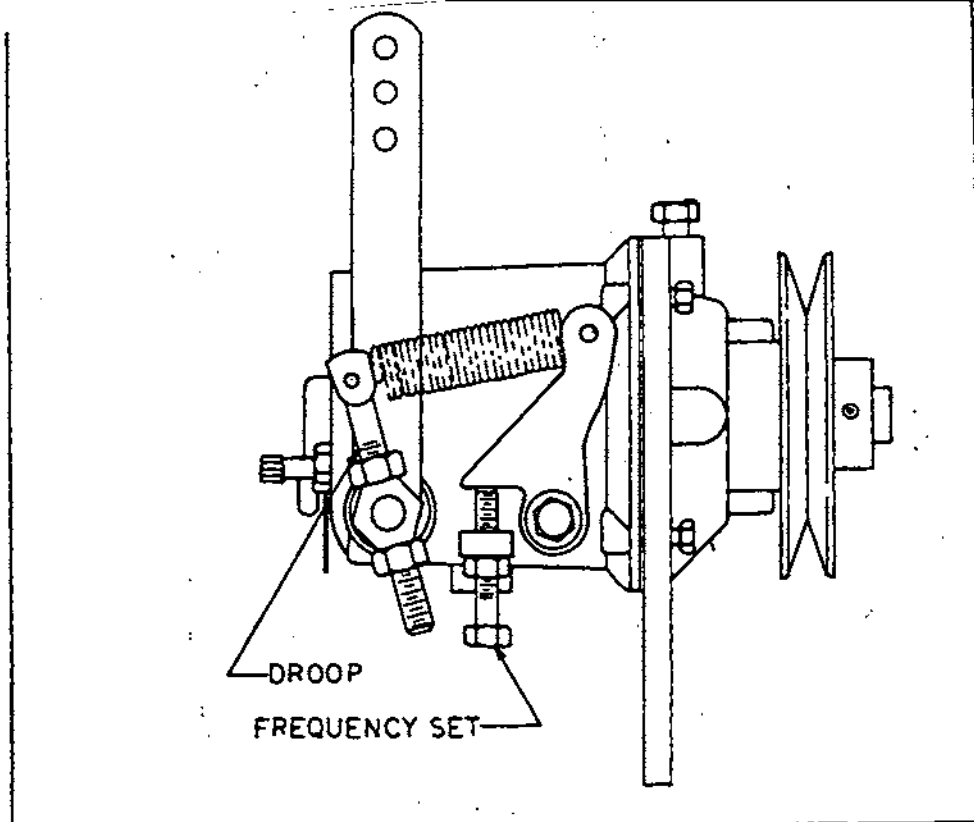

Figure 4.2-B. Early Production Mechanical Governor
4.2.3- ELECTRONIC ISOCHRONOUS GOVERNOR ADJUSTMENT (Figure 4.2-C)